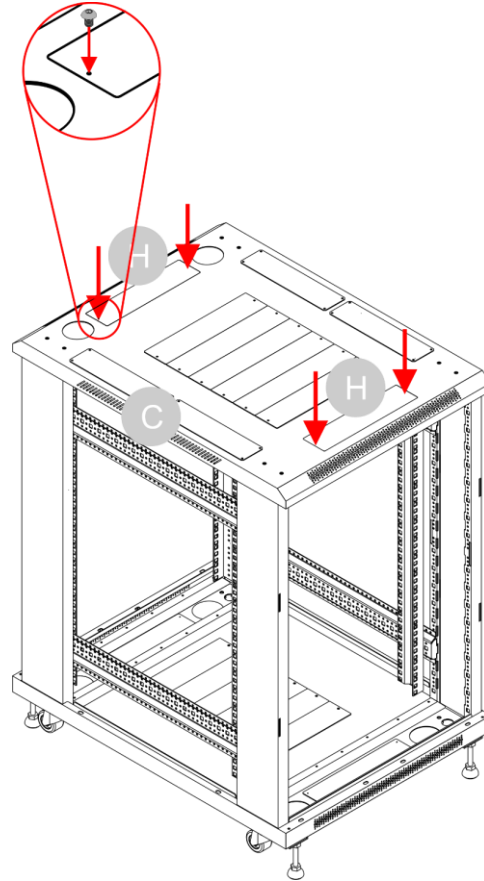

Fig. 34
18) Attach the 2 **metal plates (H)** to the **frames (B)** with 2 **screws (N)** per plate, as shown in Fig. 34.